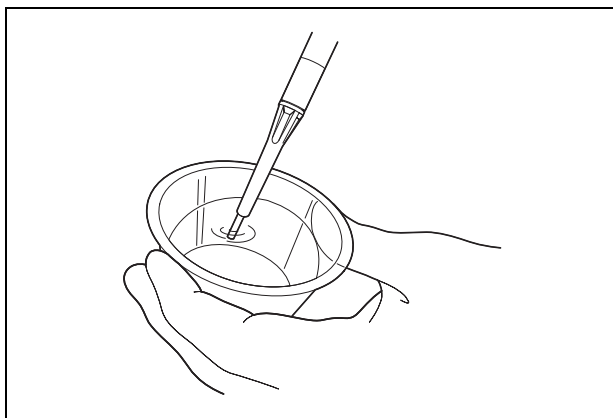

Figure 5.4
2. Activate the suction equipment, then aspirate saline solution as shown in Figure 5.4. Confirm that the suction pressure is applied at the probe's distal end.